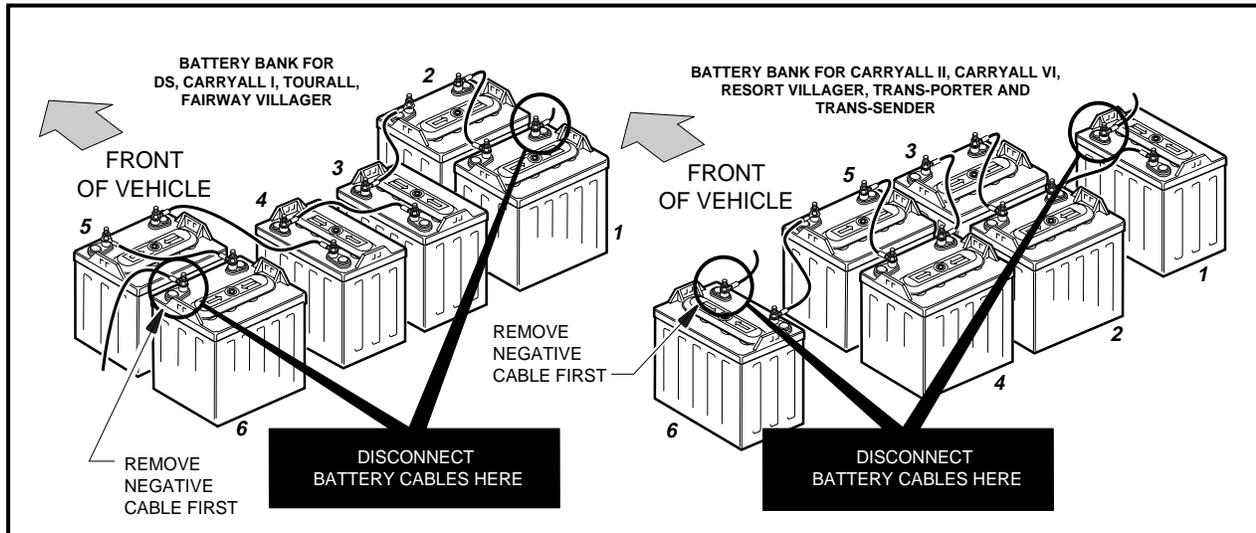

Figure 12-1 Battery Configuration
- TO AVOID UNINTENTIONALLY STARTING THE VEHICLE, DISCONNECT BATTERIES AS SHOWN IN **FIGURE 12-1, PAGE 12-2** AND THEN DISCHARGE THE CONTROLLER AS FOLLOWS:
1. Disconnect batteries (**Figure 12-1, Page 12-2**).
- **TURN THE KEY TO OFF, PUT THE FORWARD/REVERSE HANDLE IN NEUTRAL, DISCONNECT THE BATTERY CABLES AS SHOWN IN FIGURE 12-1, PAGE 12-2 AND DISCHARGE THE CONTROLLER (SEE WARNING ON PAGE 12-1). FAILURE TO DO SO MAY CAUSE THE VEHICLE TO RUN OVER YOU, RESULTING IN SEVERE INJURY OR DEATH.**
3. Disconnect the batteries (Figure 12-1, Page 12-2) and discharge the speed controller. See **WARNING** on Page 12-1.
1. Disconnect the batteries (**Figure 12-1, Page 12-2**) and discharge the speed controller. **See WARNING on Page 12-1.**